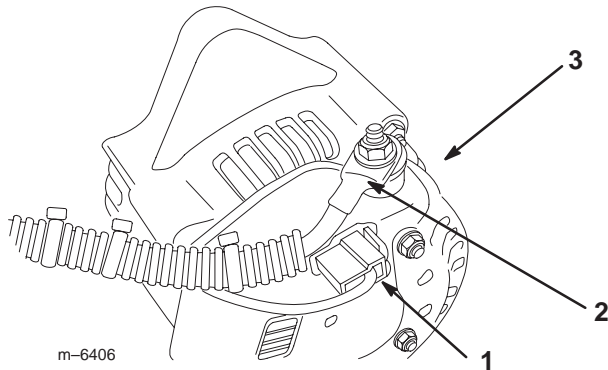

Figure 6
2. Connect the white connector on the wire harness to the port on the back of the alternator (Fig. 6).
3. Connect the eye-ring terminal on the red wire to the stud on the alternator (Fig. 6).